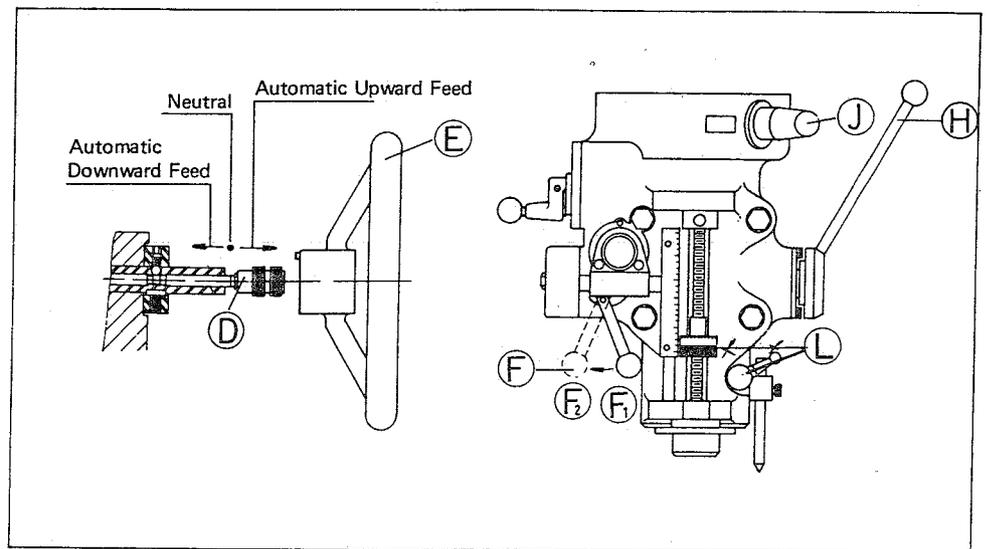

Fig. 13
- (1) The manual feed lever is installed on the right side of headstock (Figure 13, H). The spindle will travel vertically when the lever is turned. There are 12 positions to be chosen. An operator can freely take out the lever and install it again at the position deemed proper and fit.
Note: In manual feed, the feed control handle (F) must be placed at position (F1) as shown in (Fig.13).
To effectuate the manual micromotion feed, the powerfeed transmission engagement crank (J) (Fig.13) shall be placed at "OUT" position, and feed reverse knob (D) at the neutral position.
- a. Loosen the quill lock (L).
- b. Turn the power feed transmission engagement crank (J) from "OUT" to "IN" position. Make certain to engage the worm gear cradle with the spindle gear hub so that the driving will be directed from the spindle worm and worm gear before it is passed to the speed change gears.
- c. Feed speed is in three stages. H, L and M. Selection may be made by quill feed selector (C). Put feed reverse knob (D) (Fig. 13) on neutral before change feed speed.
- e. When the feed reverse knob (D) pressed inward (Fig.13), it is for downward feed, and vice-versa. The middle position is neutral.